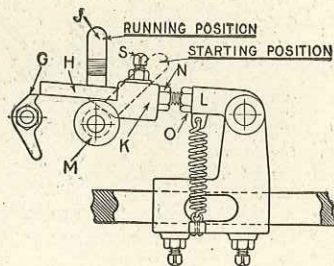

Figure 12.
**Figure 12.** This is a line drawing of the tripping mechanism showing how it should be set for proper running. It also shows the timing lever "J." Be sure when starting the engine that this is pushed to the right as far as it will go. This retards the spark and prevents the engine from kicking back when starting.
**Second.** Place the timing lever "J" (Figure 12) in the starting position. This retards the spark and prevents the engine from kicking back when you start it.
**Fifth.** As soon as engine starts open the air damper, change the timing lever "J" (Figure 12) to the running position and close the fuel valve slowly until the point is reached where the engine runs with the least number of explosions and without black smoke appearing at the exhaust or a popping sound at the mixer, the latter being caused by an insufficient supply of fuel, and smoke at the exhaust by too much fuel.
**Second.** Place the timing lever "J" (Figure 12) in the starting position and turn the flywheels to the right until the igniter trips, then stop.